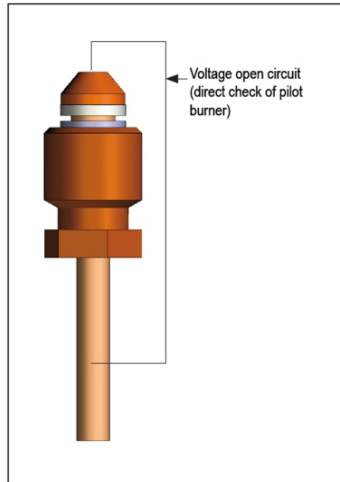

Figure 3
- Check the voltage the thermocouple is generating (see figure 3). Disconnect the thermocouple from the interrupter block and place one probe at the end of the thermocouple contact area and the other probe on the body- of the thermo